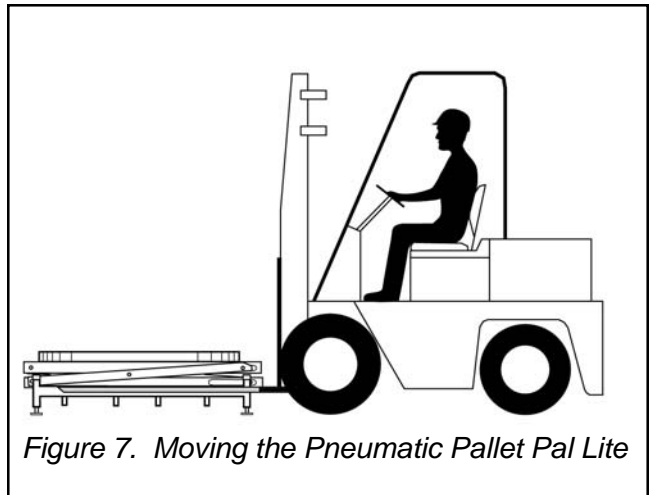

Figure 7. Moving the Pneumatic Pallet Pal Lite
2. Insert the forks into the pockets in the base frame. See Figure 7.